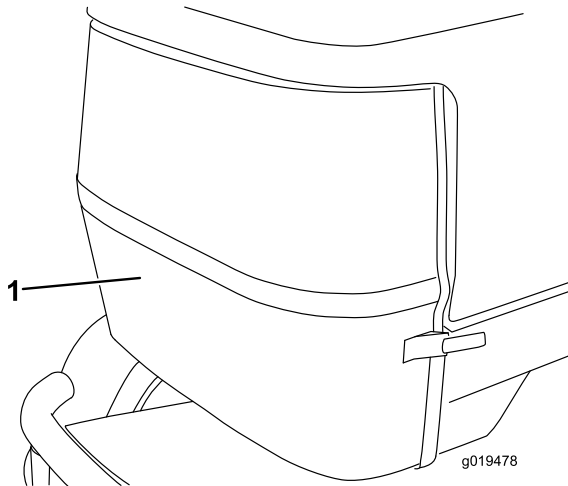

Figure 70
2. Unlatch and remove rear screen (Figure 70). Clean screen thoroughly.